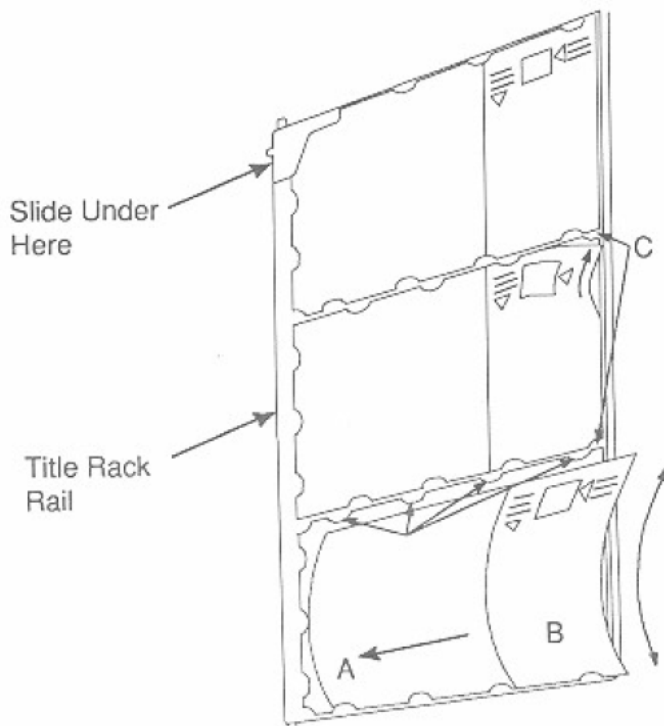

Figure 2-3. Loading The Title Rack
4. Insert the CD booklet under the top and bottom tabs of the title rack. Slide the CD booklet toward the pivot of the title rack until the booklet is trapped by the molded stops on the title page (see *figure 2-3, ref A*).
5. Insert the folded title strip under the top and bottom tabs of the title rack. Slide the title strip until the disc number shows in the opening of the title strip and the title strip is locked in place by the molded stops (see *figure 2-3, ref B*).
6. All of the tabs surrounding the CD booklet and title strip should be holding them in place. If you missed a tab, carefully tuck the loose paper under the tab as shown in *figure 2-3, ref C*.